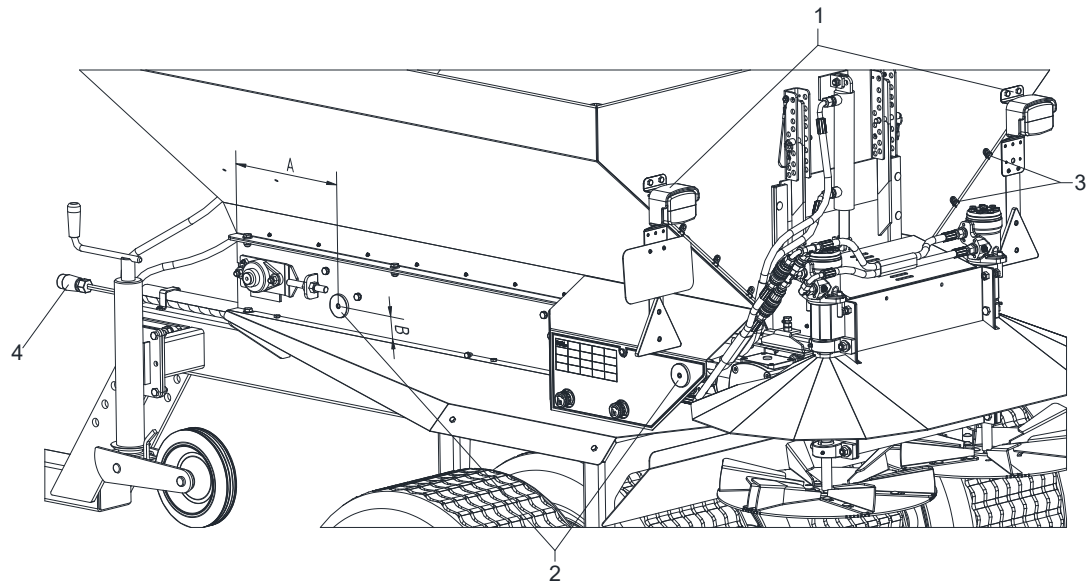

Fig. 21 Mounting the Lightning unit
1. Fastening the reflectors (Fig. 21/2):
Attach to the protective cover and to the belt unit with dimension A (Fig. 21/A) 360 mm (14.17") and dimension B (Fig. 21/B) 60 mm (2.36") at the front on both sides and on the opposite side from the rear using 5x16 blind rivets.
2. Attach the LED lighting unit (Fig. 21/1):
The lighting unit (Fig. 21/1) is secured to the rear wall of the hopper of the disc spreader using hexagon bolts M8x12 and hexagon nuts M8.
3. The electric cable with 7-pin plug (Fig. 21/4) is secured using the fastening clamps (Fig. 21/3) and guided forwards under the wheel cover.
4. The lighting unit is connected to the towing vehicle via a seven-pin plug (Fig. 21/4) for the 12V power supply.